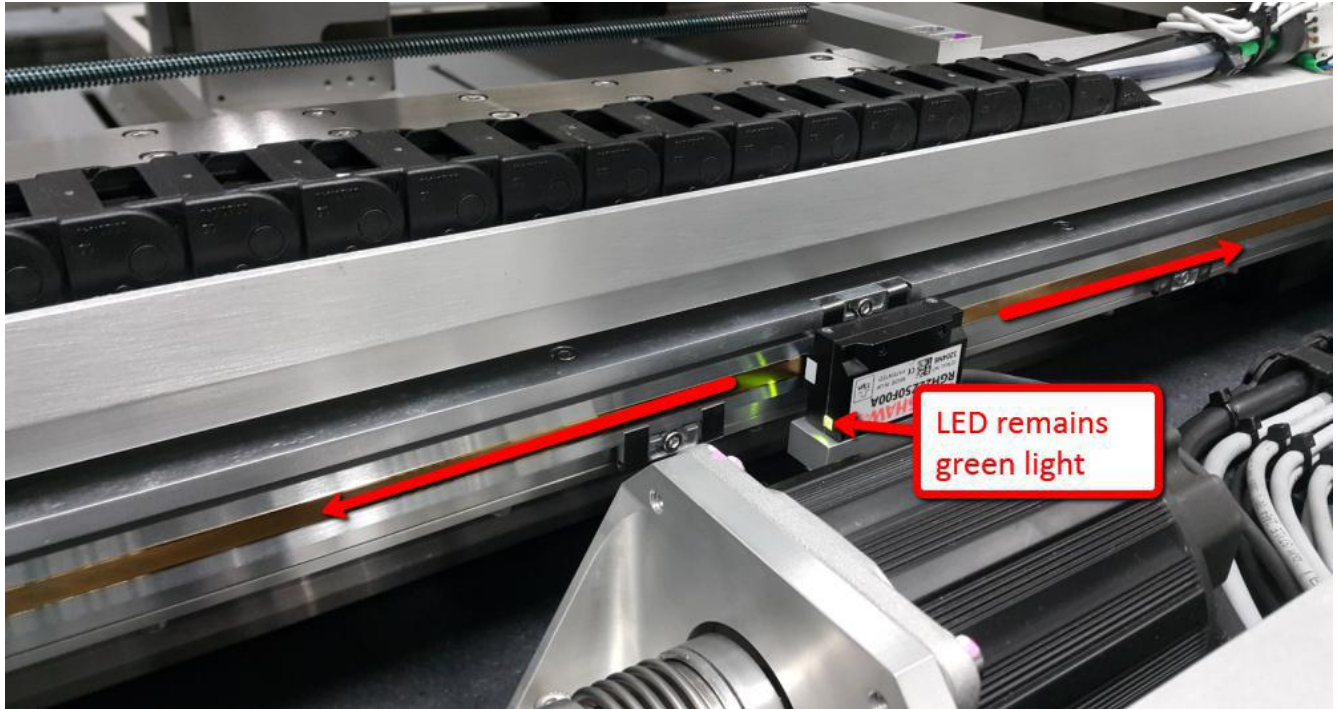

Figure 11 Y-Axis encoder checking
- Move Y-Axis stage to minimum hard stop (front side) and maximum hard stop (rear side). Visual check Y-Axis encoder which require green light illuminated along the way as shown in Figure 11. If adjustment require, May refer to “AXI V810 Y-Axis Read Head Encoder Replacement Procedure”.